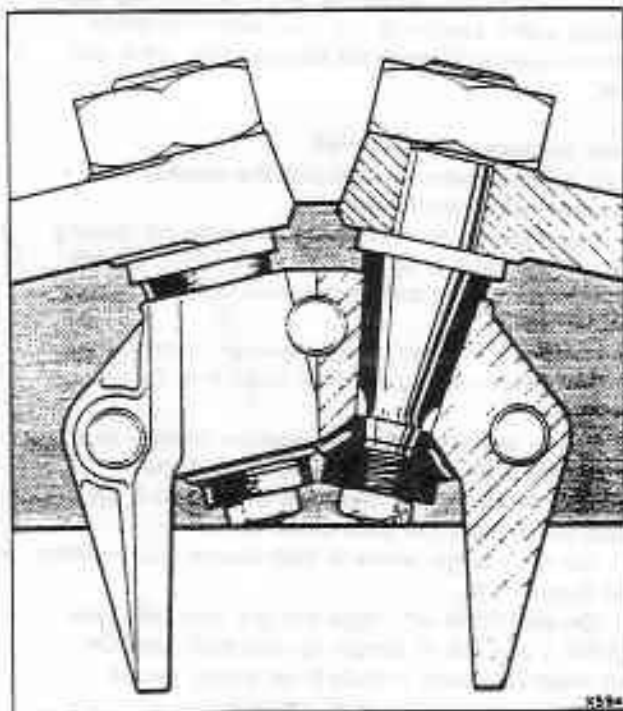

Fig. H4-1 Front triangle lever mount (Tapered bush)
8. Slacken the large nuts or bolts (dependent on the type of pivot) securing the lower triangle levers to the sub-frame pivot bushes (see figs. H4-1, to H4-4 inclusive).
2. To remove the bushes either, remove the retaining nut and withdraw the bush from its location or press the bush out of the triangle lever, dependent on the type fitted (see figs. H4-1 to H4-4 inclusive).
3. Fit the new bushes as follows. Insert the tapered type of bush into its housing and fit the bonded rubber washer, distance tube (rear bush only), and nut (see figs. H4-1 and H4-3). Torque tighten the nut to the figure quoted in Section H12.
1. Assemble the front triangle lever onto the bearing housing as shown in figures H4-1 and H4-2. Do not tighten the nut or fit the shim washers (if applicable) at this stage.
5. On cars fitted with large triangle lever nuts (see figs H4-1 and H4-3), torque tighten both nuts. On cars fitted with front triangle lever shims, torque tighten the rear triangle lever nut only.